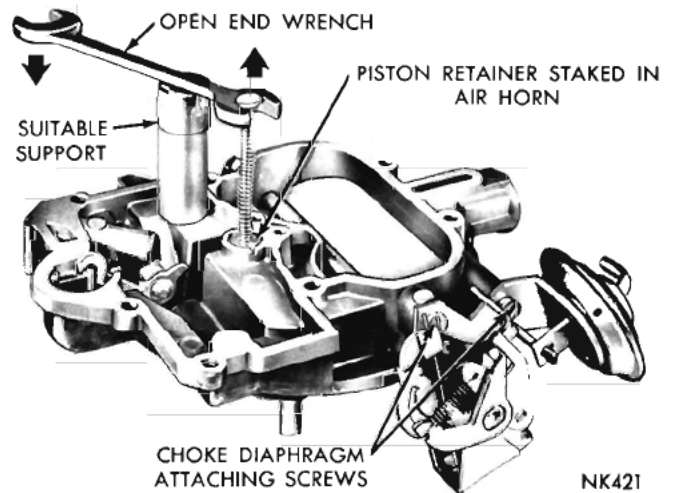

Fig. 5—Removing the Vacuum Power Piston
(2) Remove the vacuum power piston from the air horn, using an open end wrench and wood block, as shown in (Fig. 5). (Exert sufficient pressure on end of wrench to force piston out of its well in air horn.) (This assembly is staked in the air horn and care